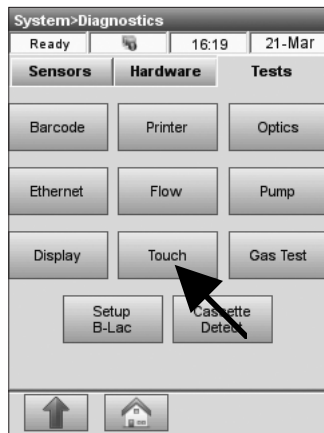

Fig. 8-30 Select Touch Test
- Press **<Touch>** to start the test (Fig. 8-30).